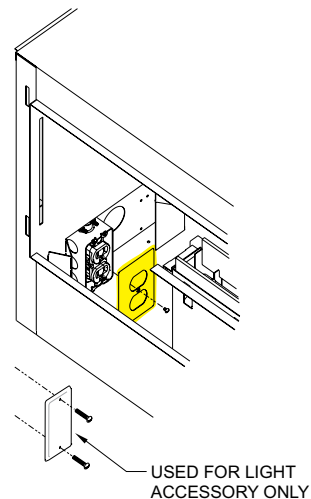

Figure 15
- Once the junction box wiring is completed, re-install the junction box into the lower right corner of the firebox cavity using the screws removed in step 4 as shown in **Figure 15**.